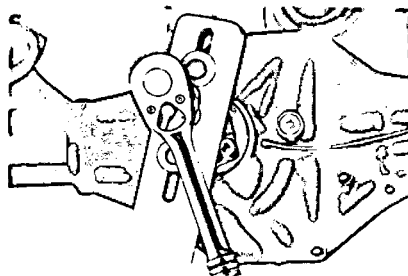

FIG. 11—Typical Drive Pinion Flange Removal
6. Using the tool shown in Fig. 11, remove the pinion U-joint flange.